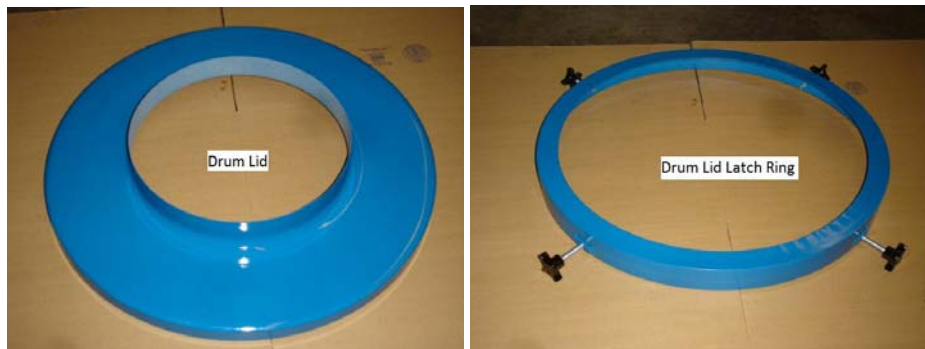

Figure 6
1. Identify your 55 gallon drum, drum lid and drum lid latch ring using the photos below. Please note that the 55 gallon drum is not included with the dust collector unless you specifically ordered it. (Figure 6)